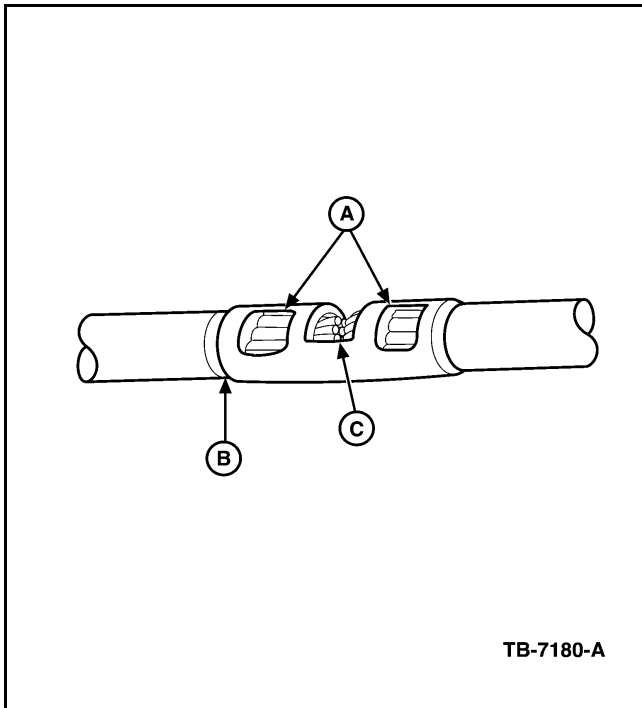

Figure 5 - Article 04-3-2
- a. Crimp should be centered on each end of the butt splice. It is acceptable for crimp to be slightly off center, but not off the end of the butt splice (Figure 5 A).
- b. Wire insulation should not enter butt splice. Wire is flush with or extends slightly beyond end of butt splice (Figure 5 B).
- c. Wire should be visible through inspection hole of splices (Figure 5 C).